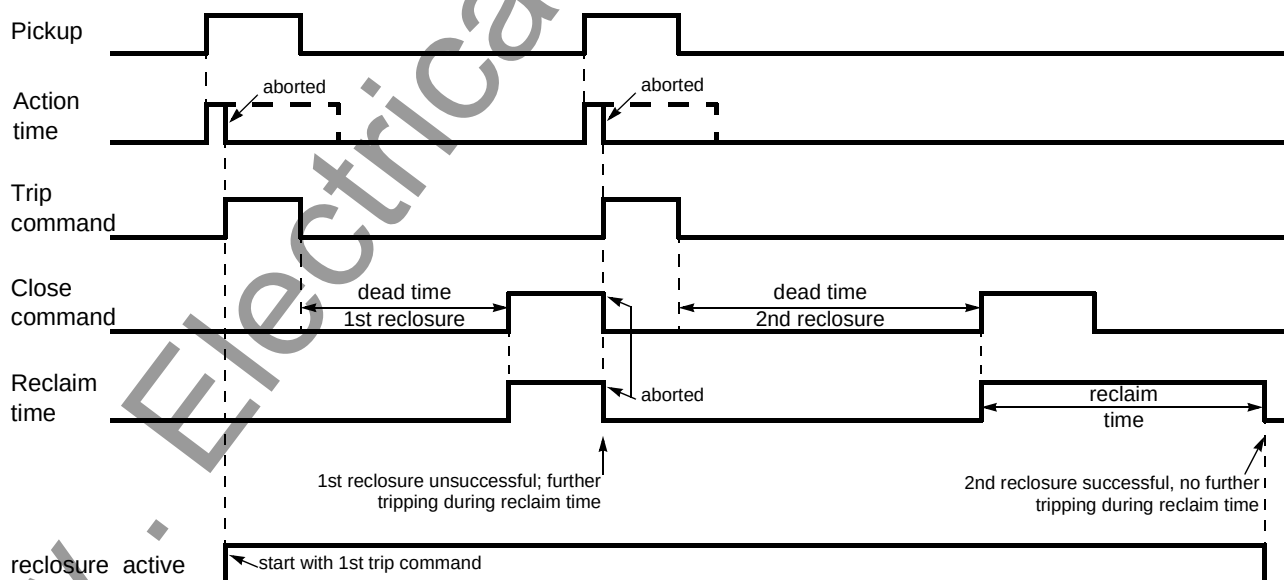

Fig. 6-93 Timing diagram of a double-shot reclosure with action time (2nd reclosure successful)
Experience shows that about 85 % of the arc faults on overhead lines are extinguished automatically after being tripped by the protection. The line can therefore be reclosed. Reclosure is performed by an automatic reclosure function (AR). An example of the normal time sequence of a double-shot reclosure is shown in Figure 6-93.